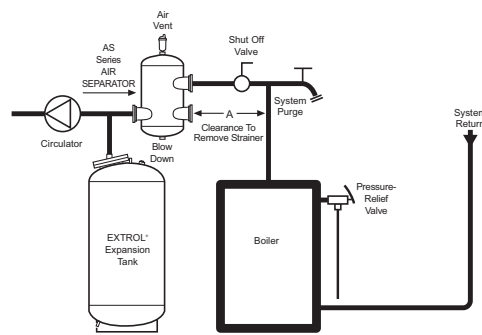

Figure 2. AS Series
3. Model AS air separators have strainers, which must be removed and cleaned after 24 hours of operation, 30 hours of operation and as required to maintain proper air separation. Before installing the model AS refer to Figure 2 for minimum distances to be maintained between the blind flange and any wall or other obstruction for strainer removal.